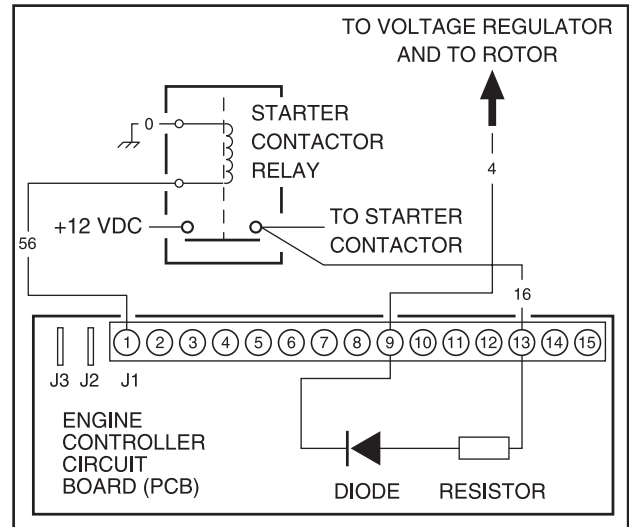

Figure 7-4. – The Field Boost Circuit
4. Connect the positive (+) test lead to Wire 16 at pin location J1-13 on the PCB (see Figure 7-4) (J1, J2 & J3 connectors remain connected to PCB). Connect the negative(-) test lead to a clean frame ground.
6. Connect the positive (+) test lead to Wire 4 at pin location J1-9 on the PCB (see Figure 7-4) (J1, J2 & J3 connectors remain connected to PCB). Connect the negative(-) test lead to a clean frame ground.